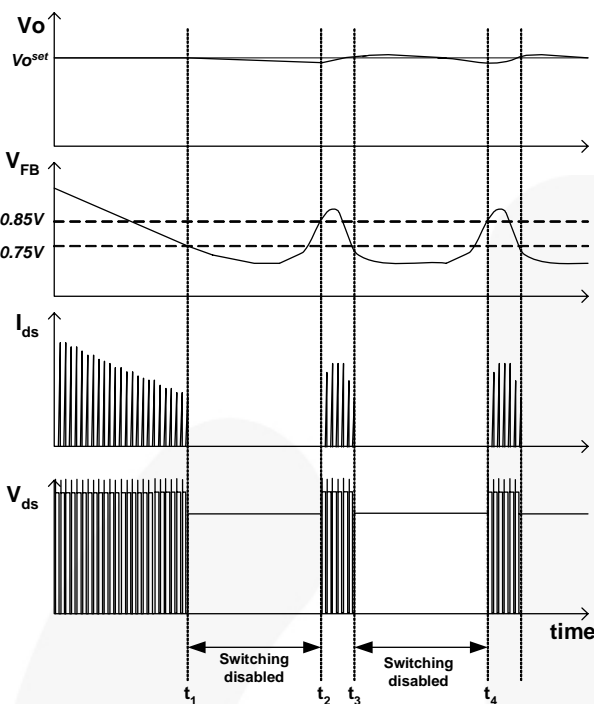

Figure 18. Burst-Mode Operation
**6. Burst-Mode Operation:** To minimize power dissipation in standby mode, the FPS enters burst-mode operation. As the load decreases, the feedback voltage decreases. As shown in Figure 18, the device automatically enters burst mode when the feedback voltage drops below  $V_{BURL}$  (750mV). At this point, switching stops and the output voltages start to drop at a rate dependent on standby current load. This causes the feedback voltage to rise. Once it passes  $V_{BURH}$  (850mV), switching resumes. The feedback voltage then falls and the process repeats. Burst mode alternately enables and disables switching of the SenseFET, reducing switching loss in standby mode.